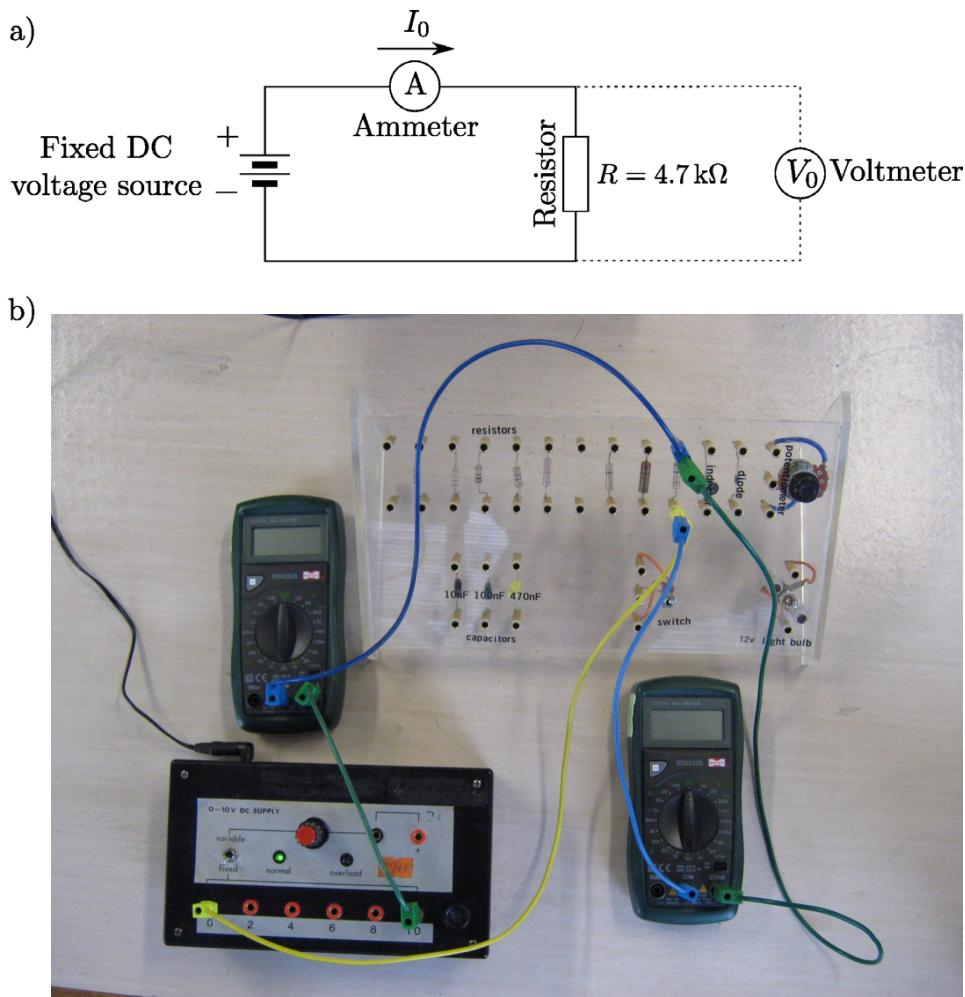

Figure 3: a) Circuit diagram for the first experiment. b) Photo of the corresponding circuit with $V_0 \approx 10\text{ V}$.
- Connect the circuit shown in Figure 3 after first checking you have the correct resistor.